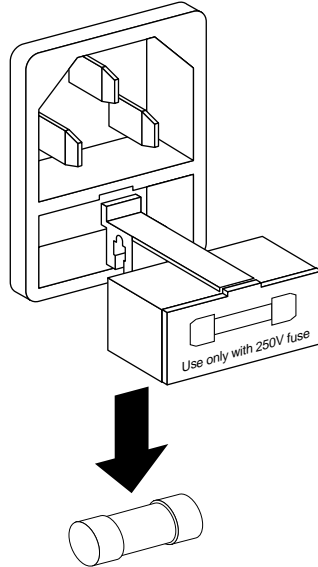

Figure 2-8 Removing the Fuse
- 4 Remove the burned-out fuse by pulling it straight out of its socket, as shown in Figure 2-8.